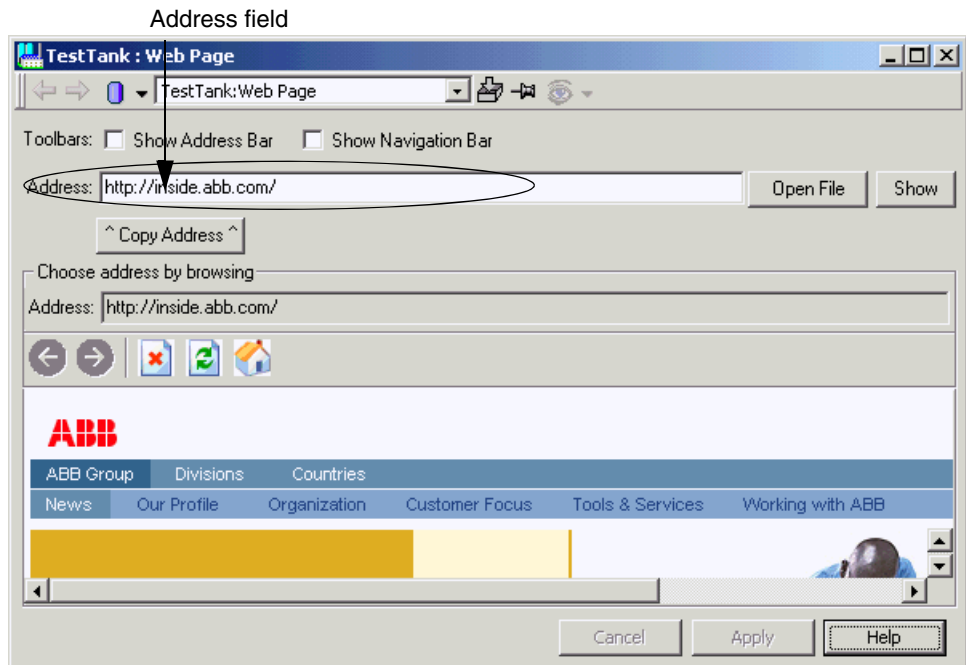

Figure 239. The Web Page Aspect in the Config View
2. Open the Config View of the Web Page aspect. See Figure 239.